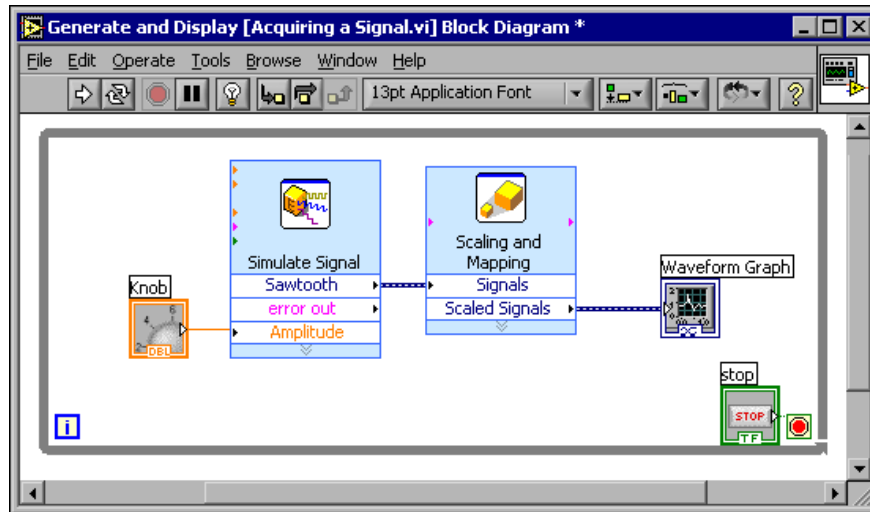

Figure 2.22
9. Using the Wiring tool, wire the Scaled Signals output of the Scaling and Mapping Express VI to the Waveform Graph terminal. Notice the wires connecting the Express VIs and terminals. The arrows on the Express VIs and terminals indicate the direction that the data flows along these wires. The block diagram should appear similar to Figure 2.22.